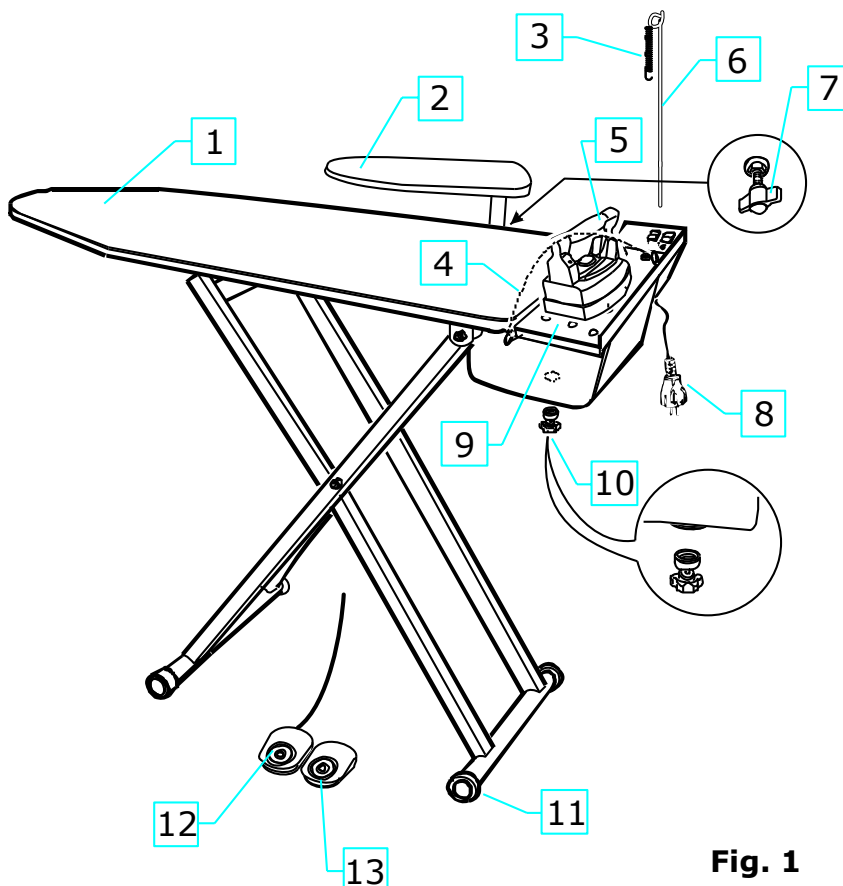

Fig. 1
2. Remove PROMETEO from the box and insert the cable support deep into the special hole (fig.1).
4. Place the iron on the rubber iron rest supplied with the machine (fig. 1).
3. During ironing, always put the iron on its rubber rest (fig. 1).
Unscrew the safety valve plug and open the discharge tap (fig. 1), wait for all the water to come out and then close the tap again. The tap might get clogged: in this case use a wire with a diameter of 3-4 mm to unclog it.